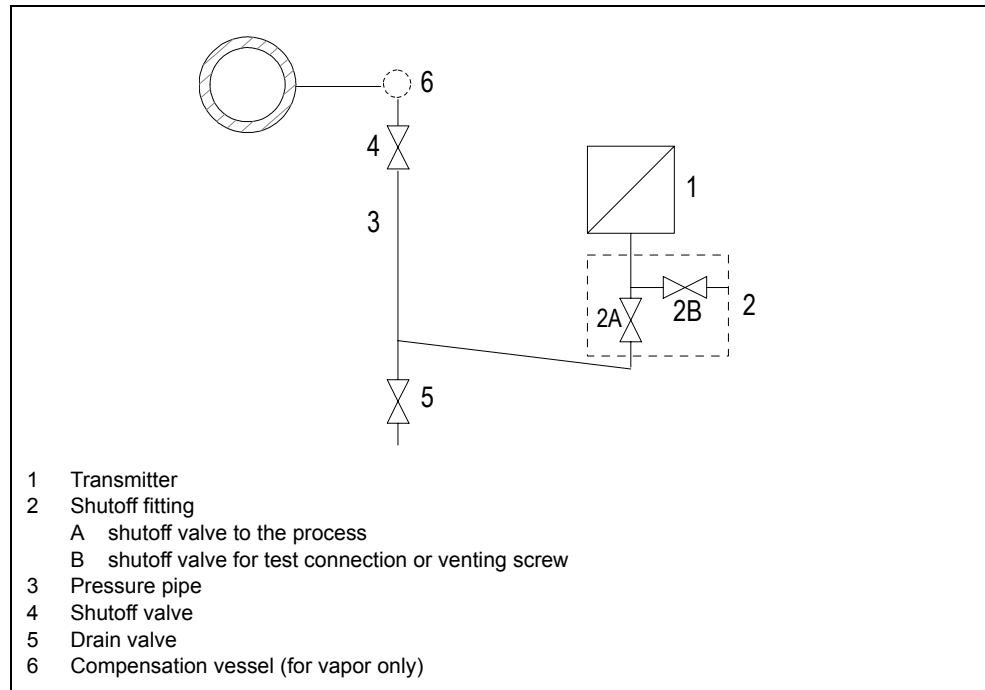

Figure 54 Measuring vapor
1. Open the shutoff valve (Figure 54, pg. 98, 2B).
2. Apply pressure corresponding to the start of scale through the test connection of the shutoff fitting (2) to the transmitter.
5. Open the shutoff valve (4) on the pressure tap.